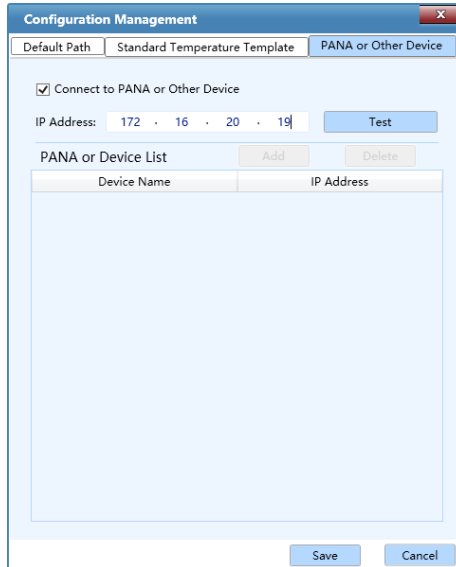

Figure E-3.8c Configuration Management Interface - PANA or Other Device Tab - Add
- Users can enter the instrument name in the pop-up window after connect to the instrument, click < **OK** > then < **Add** > to add the instrument to the instrument list, as shown in figure E-3.8c.